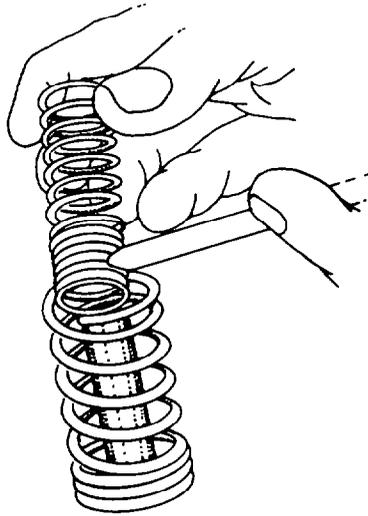

Fig. 47 — Installing Valve Springs
- a. Install both inner and outer valve springs with the tighter wound coils towards the head (see fig. 47).